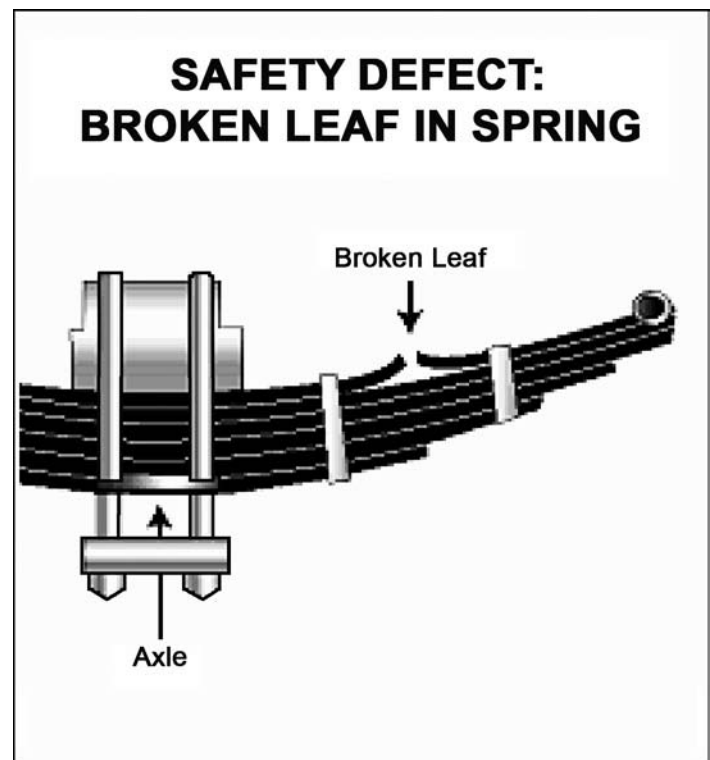

Figure 2.3
- Missing or broken leaves in any leaf spring. See Figure 2.3.